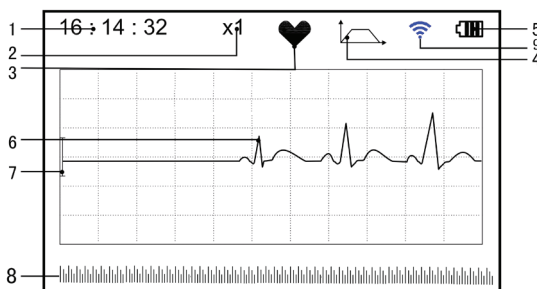

Figure 3-4 ECG Measuring Screen
enter into measuring screen, as shown in Figure 3-4. There are 6 tool buttons, press navigation key to shift cursor and press "OK" to confirm. Each functional button will be defined as follows:
1. After choosing a proper measuring method as described in Chapter 3.2.1, press  "Measure" to enter quick ECG measurement automatically, as shown in Figure 3-4. The first 15 seconds is preparing phase during which the device will judge whether the position of electrode is befitting or not according to measured ECG waveform. Please adjust your holding position if the detected waveform is not smooth.